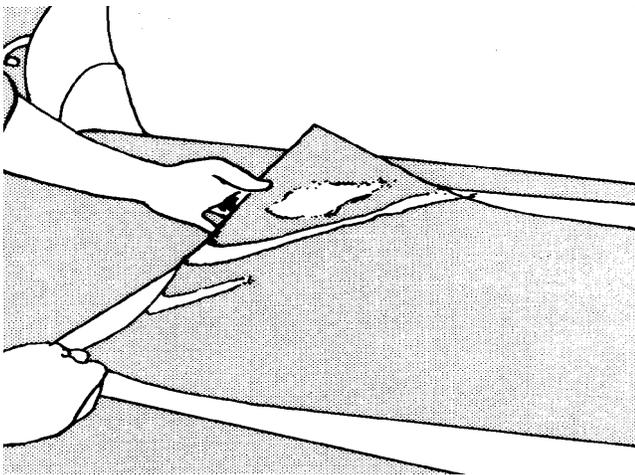

Figure 2. Lifting and Turning over the Film
- Lift and turn over the film, adhesive side down, onto the wetted substrate and correctly align with any registration marks. See Figure 2.